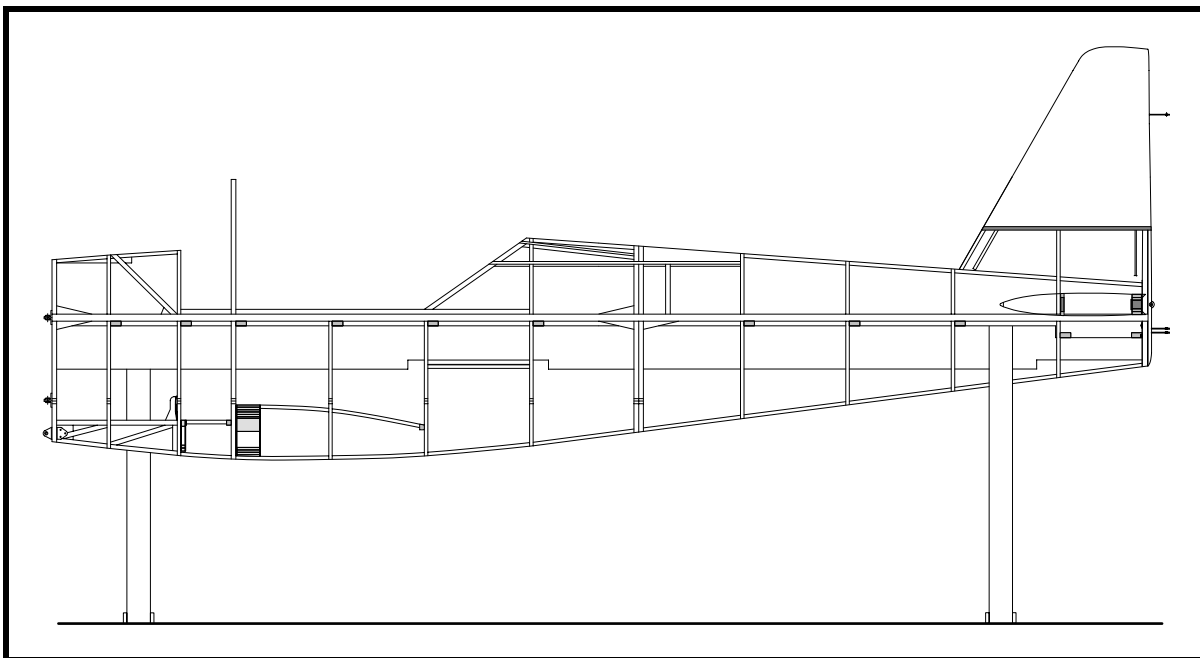

Figure 42
- ❑ Glue the laminated bow for the forward end of the battery compartment door in place. See Figure 42.